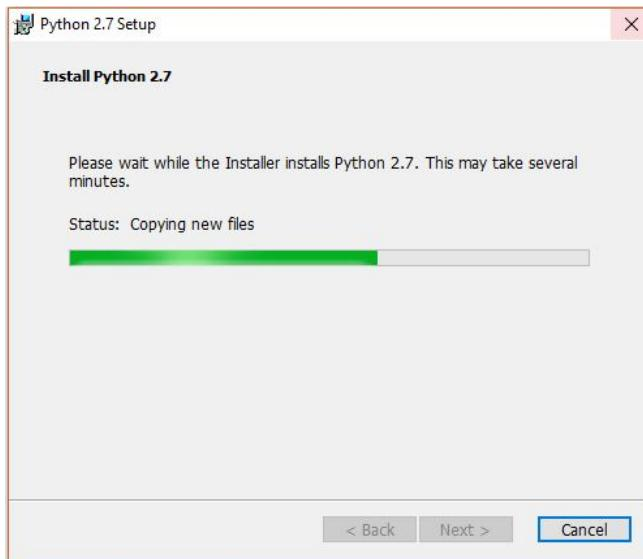

Figure 43. AFE5832 GUI Install (Python® Installation Progress)
12. The window shown in Figure 43 appears showing that the installation is in progress.